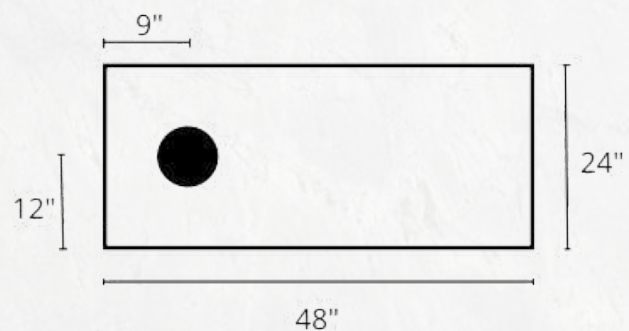

Figure 1. Board Dimensions
- The board is to be four (4) feet in length and two (2) feet in width.
- The hole will be six (6) inches in diameter and the center will be located one (1) foot from either side and nine (9) inches from the top edge (refer to Figure 1). All dimensions shall have an allowable tolerance of ± 0.25 inches.